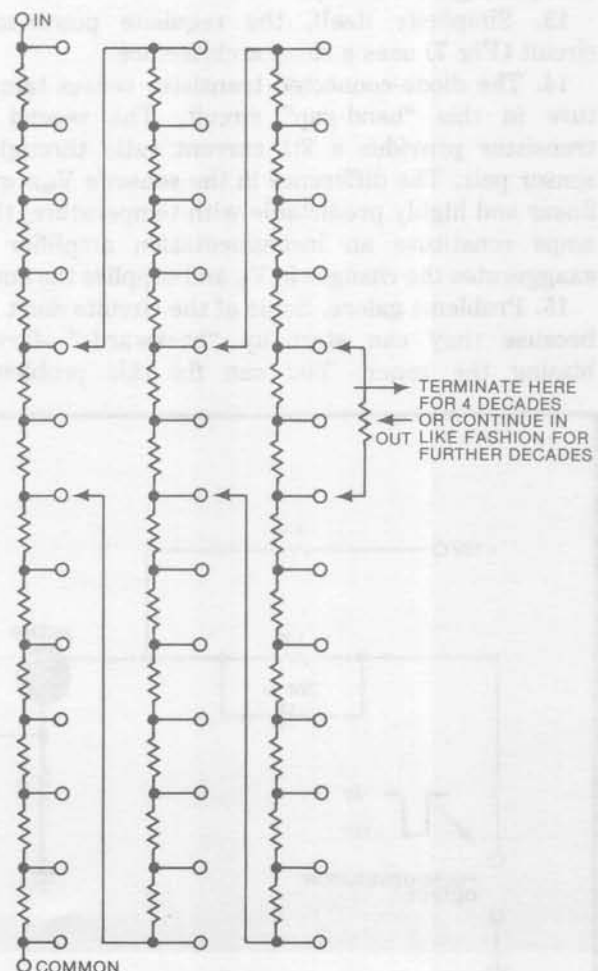

Fig 1—The Kelvin-Varley divider allows you to add decades easily.
1. Several forms work; the most widely known solution is the Kelvin-Varley divider (named after Lord Kelvin) shown in Fig 1. All you must do is label the values of the resistors.